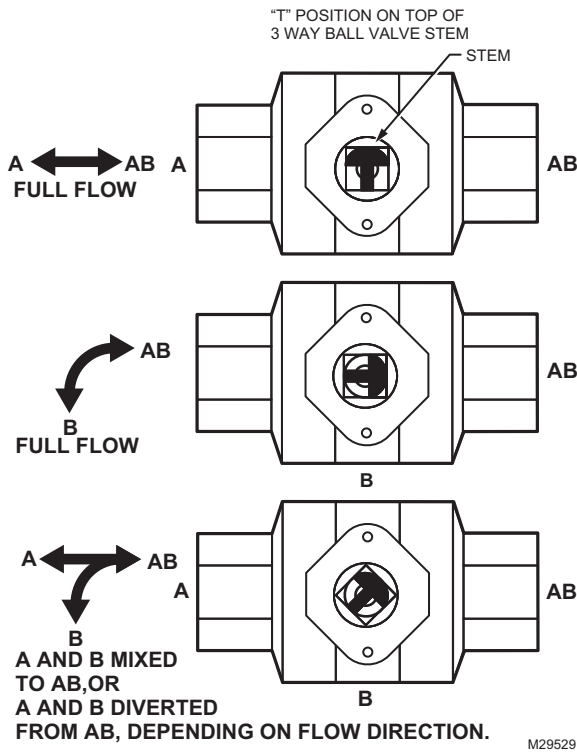

Fig. 9. Orientation of ball in valve.
NOTE: After valves have been installed in the piping, the installer can determine the ball orientation within the valve from the notches in the top of the valve stem. For two-way valves, the lengthwise direction of the notch indicates the flow through the ball (i.e. when the notch is parallel to the axis of the valve between A and B ports, the ball will allow flow through the valve). For three-way valves, the flow can be determined by the orientation of the “T” shaped notch in the valve stem, as shown in Fig. 9.
- Valve must be mounted with the actuator/bracket above pipe center line. Do not install the valve with the stem below horizontal or upside down. (See Fig. 9 and 10.) Valve may leak due to settling of abrasive material on valve stem seals. When using a NEMA 3R rated weather enclosure, the actuator must be mounted directly above the valve in a horizontal pipe run.